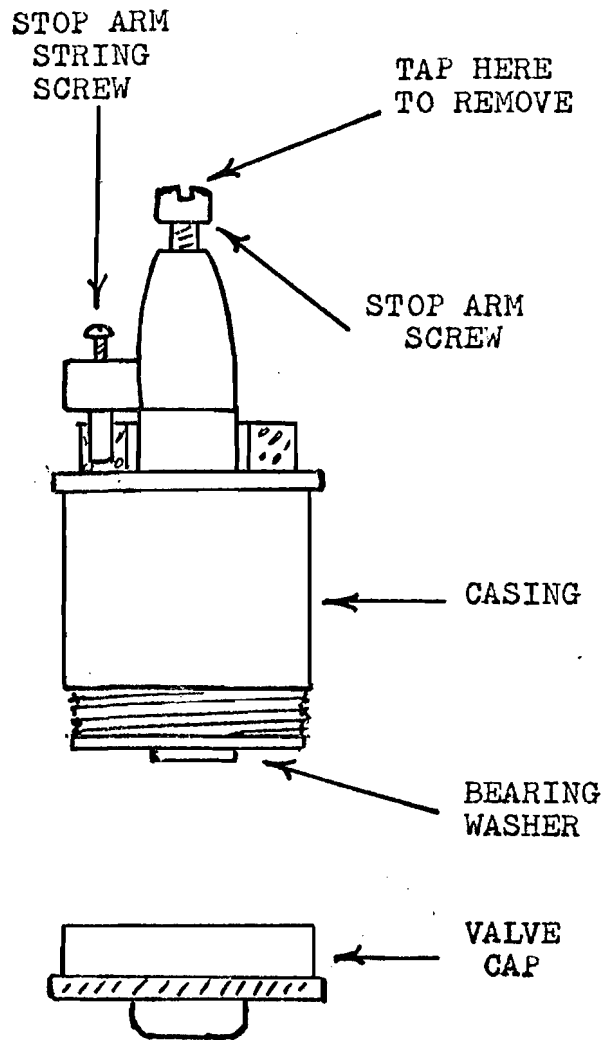

Figure 79
3. "Back off" the stop arm screw about 1/16 inch (Figure 79).
5. Tap lightly on the stop arm screw (Figure 79), until the valve is released.